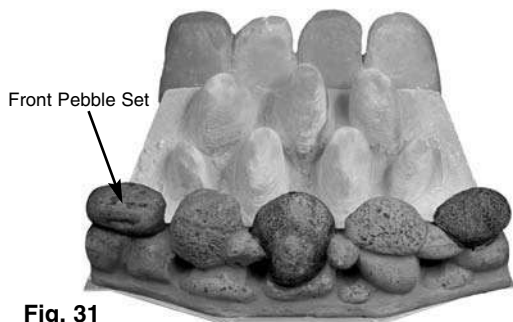

Fig. 31
3. Position the front pebble set on the front ceramic retainer, making sure that the back edge is pushed up against the front of the burner strip (Fig. 31).